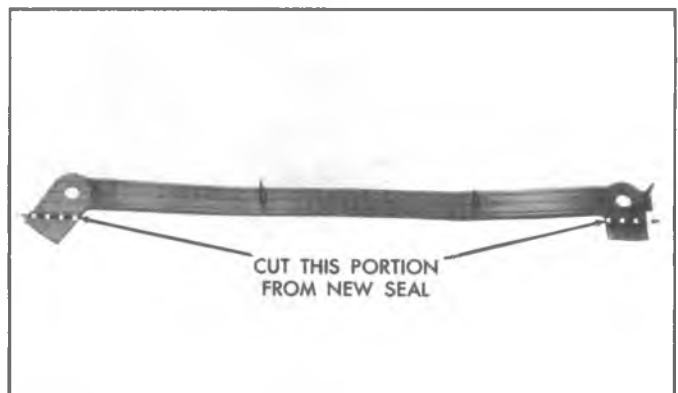

Fig. 6A1-22--Oil Pan Front Seal Modification - L25
2. Cut tabs from the new oil pan front seal (fig. 6A1-22) use a sharp instrument to ensure a clean cut (L25 engine only).